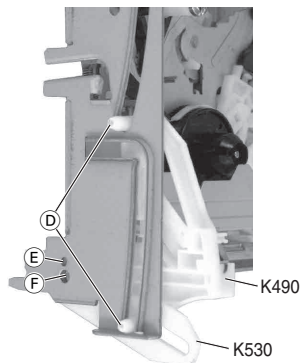

Fig. 5
- Insert the cassette lift so that the two left guide pins **D** (Fig. 5) engage into the lift guides in the frame.
- Disengage the locking lug of the lift lever one after the other through the holes **E** (Fig. 5) and **F** then remove the lift lever (K530).